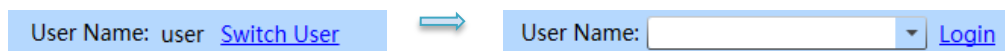

Figure D-2.1a. Quick Start Bar - Login
- **Login:** user can click < **Switch User** > and enter the registered account name in the input box; or select a registered account name in the drop-down menu, and then click < **Login** > to log in as the current user account, as shown in figure D-2.1a.